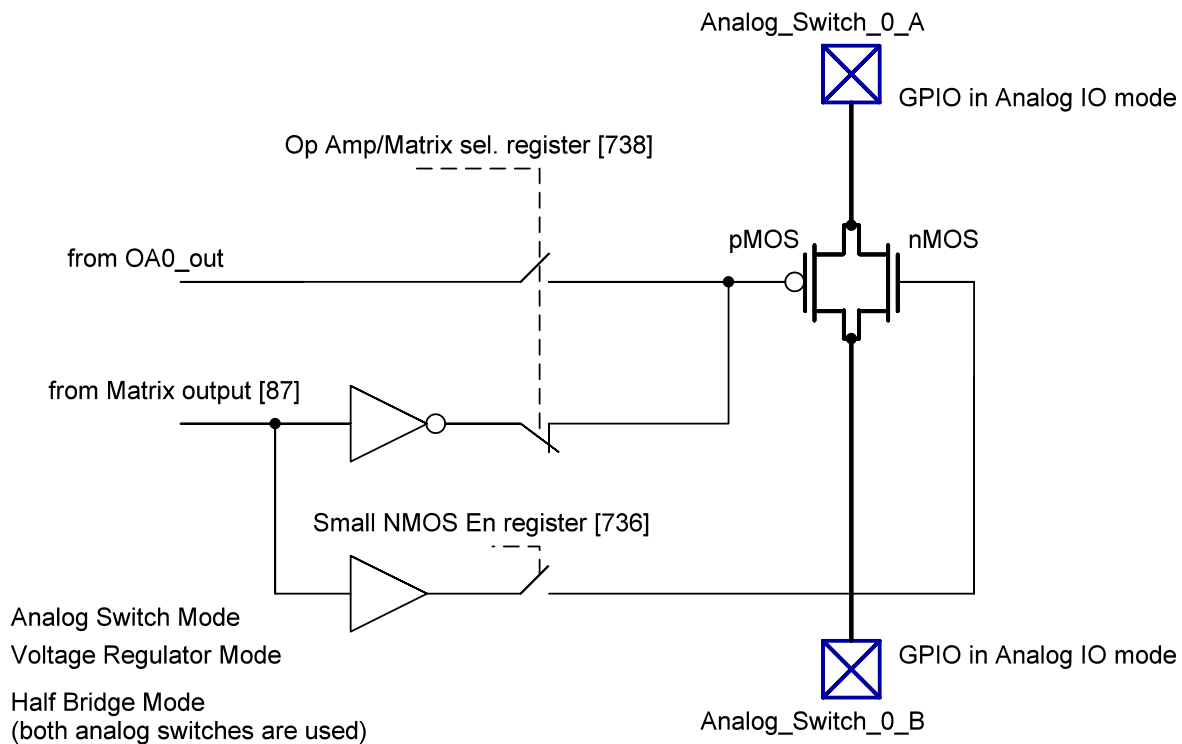
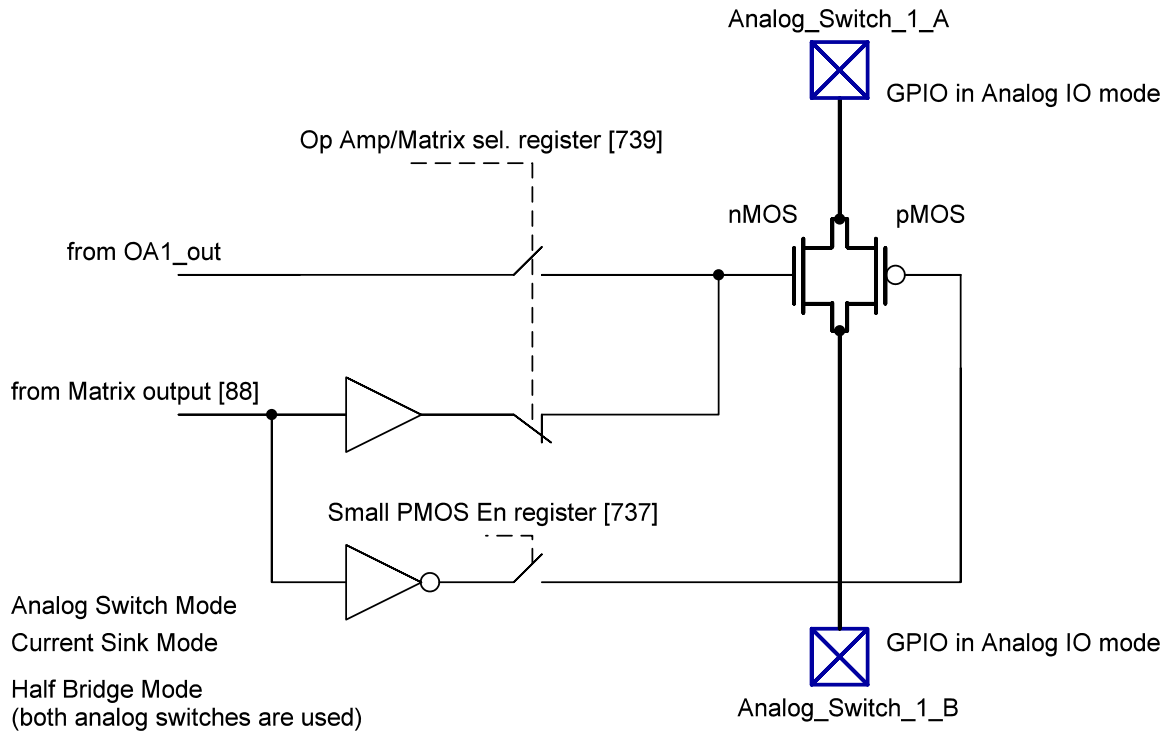

Figure 163: Analog Switch 0 Control Circuit
Figure 164: Analog Switch 1 Control Circuit
The SLG47004 contains two single-pole/single throw (SPST) normally open analog switches (AS). The structure of the Analog Switches is shown in Figure 163 and Figure 164.